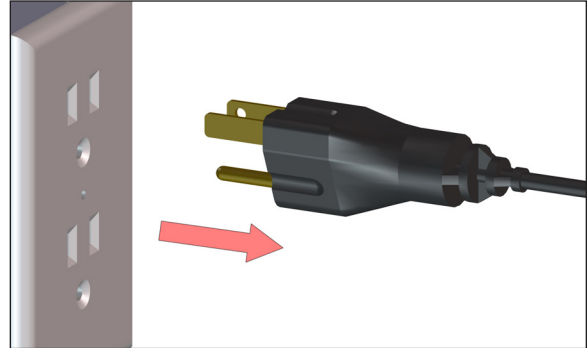

Figure 17 - Step 1 Unplug power cord
1. Disconnect the device from mains power (Figure 17).